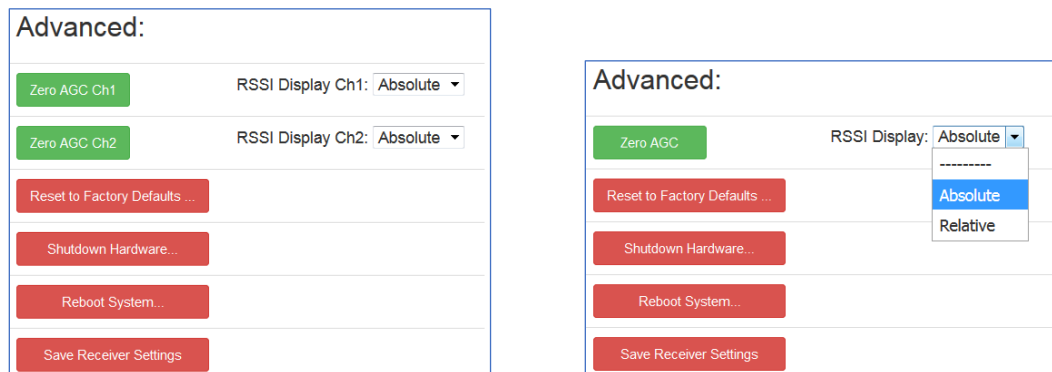

Figure 257: Advanced Buttons, Zero AGC Button, Separate Channels or Combiner Active
Automatic Gain Control (AGC) may be set to zero (0) by clicking on the green Zero AGC button in the Advanced section, shown in Figure 257. One or two buttons are available depending on the number of channels and the combiner mode.
The RSSI display has two modes depending on the option selected in the RSSI Display drop down menu, shown in Figure 257.